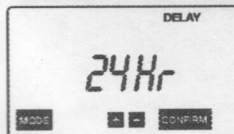

Figure 12
- Push CONFIRM button to begin delay mode. "24 Hr" will blink and the word DELAY will appear. (See Figure 12)